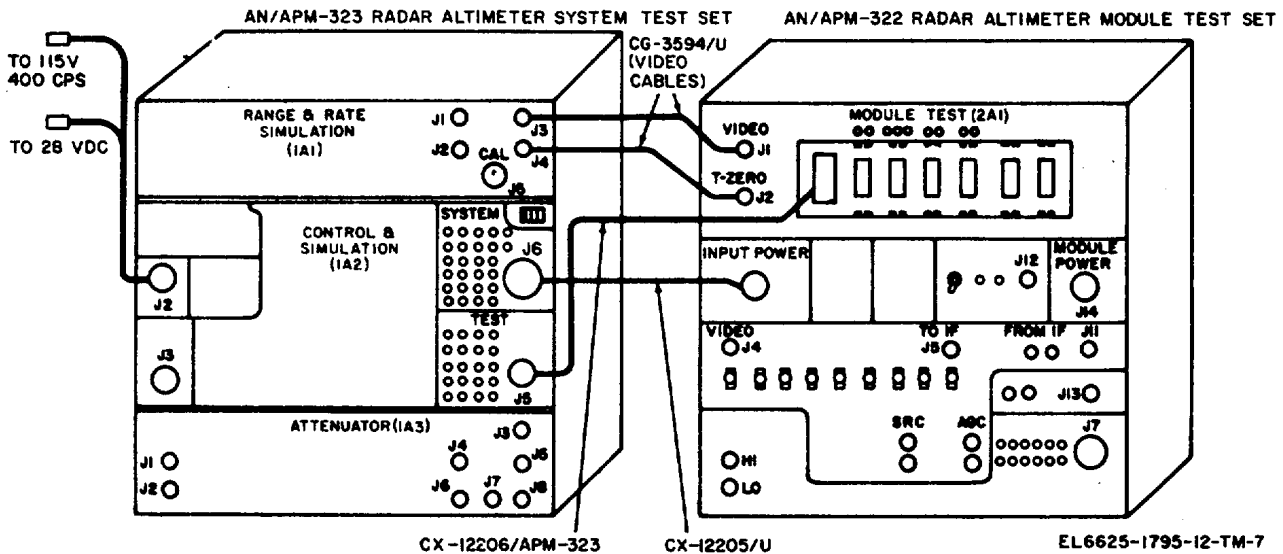
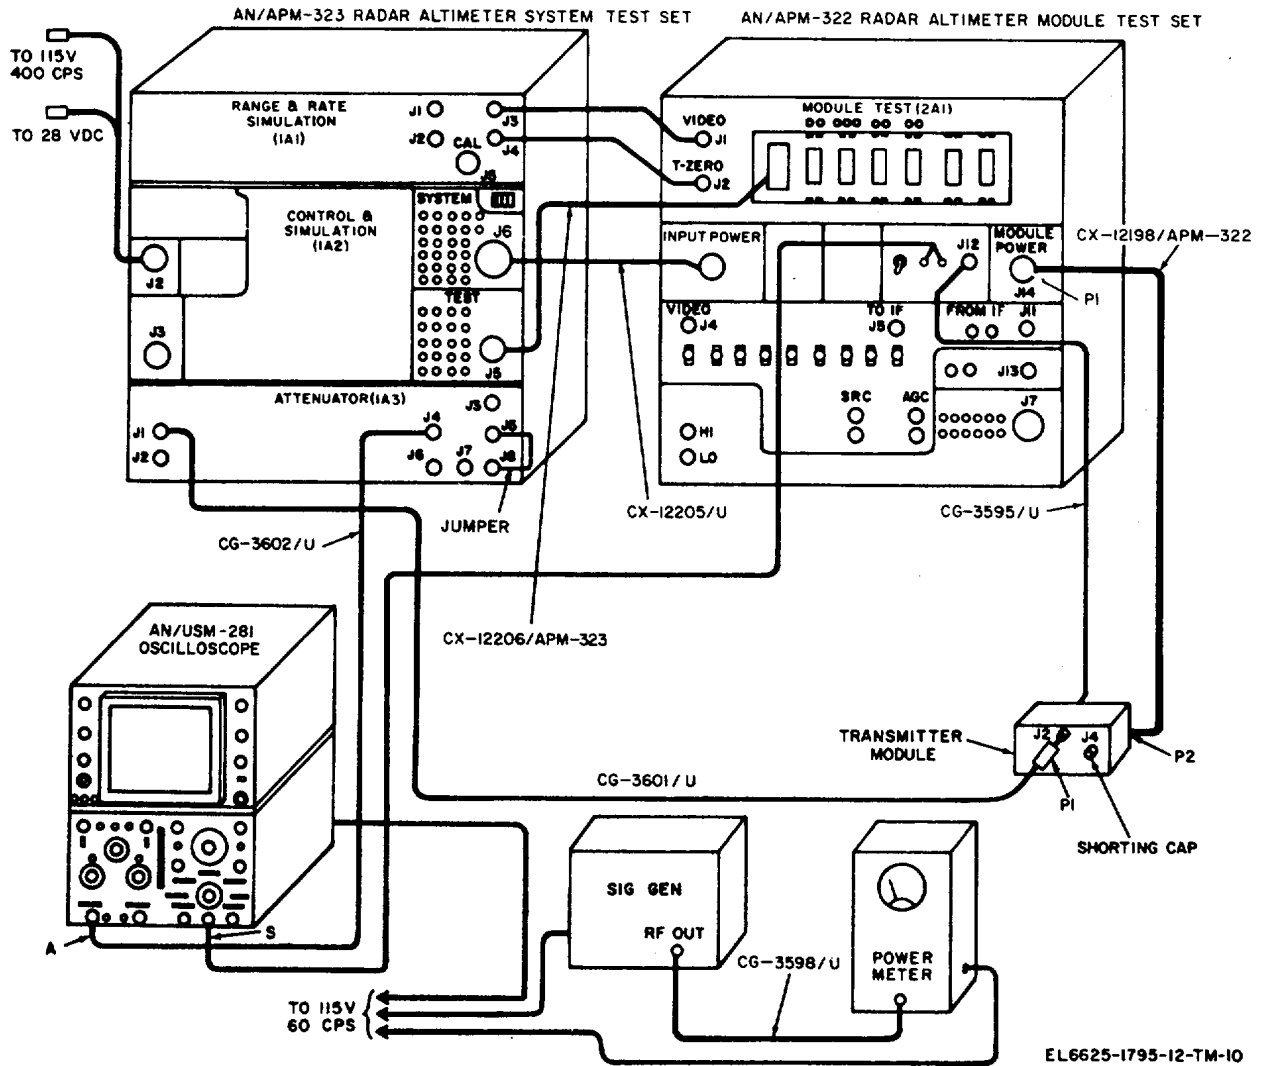
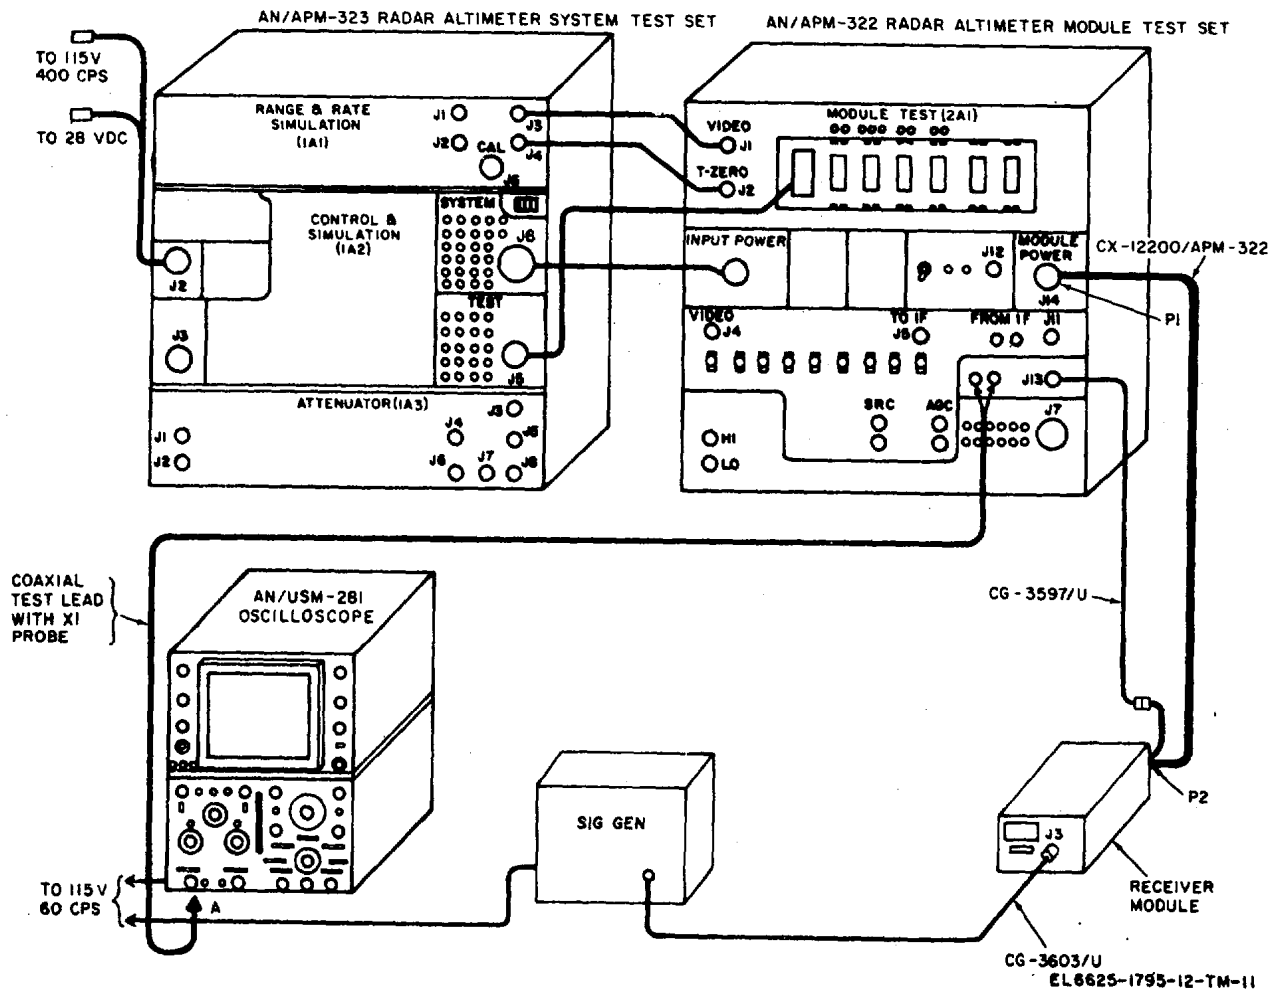

Figure 2-3. Test Set, Radar Altimeter Module AN/APM-3 2, basic test setup.
Figure 2-6. Test Set, Radar Altimeter Module AN/APM-322, transmitter module test setup.
Figure 2-7. Test Set, Radar Altimeter Module AN/APM-322, receiver module test setup.
a. Basic Test Setup. The module test set must be interconnected with the system test set as shown in figure 2-3 for all module tests.
a. After the test connections are completed according to figure 2-3, set the system test set controls as follows:
(1) Connect the basic test setup as shown in figure 2-3.
(1) With the system test set and the module test set connected as shown in figure 2-3, connect the transmitter module according to figure 2-6. Connect Cable Assembly CC-3601/U (transmitter RF cable supplied with the system test set) to transmitter
(1) With the basic test setup of figure 2-3 completed, the receiver module shall be connected for test according to figure 2-7.